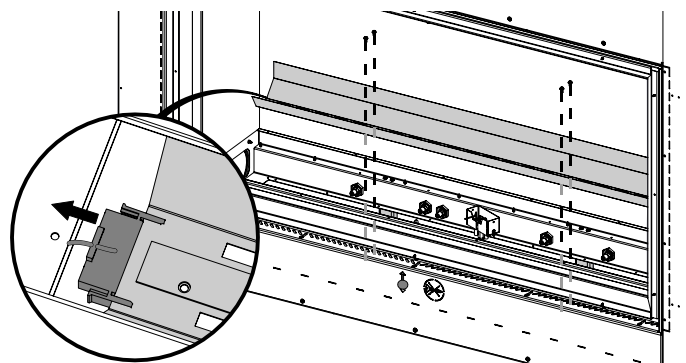

Fig. 3
6. Disconnect the wires at both ends of the LED Sleigh Assembly (Fig. 3).
7. Remove the LED Sleigh Assembly by removing the securing screws. Replace and reinstall components (Fig. 3).